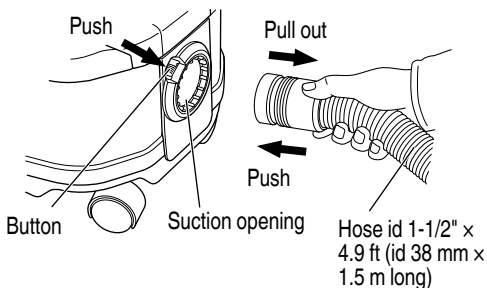

Fig. 12
1. Connecting the hose (Fig. 12)